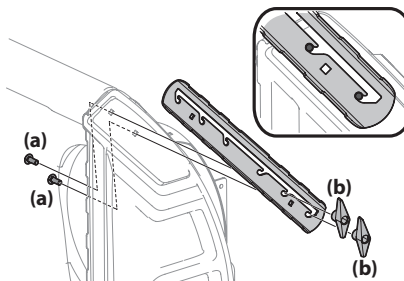

Figure 2-53
1. Loosen the two carriage bolts (a) and wing nuts (b) that secure each drift cutter to the sides of auger housing. See Figure 2-53.